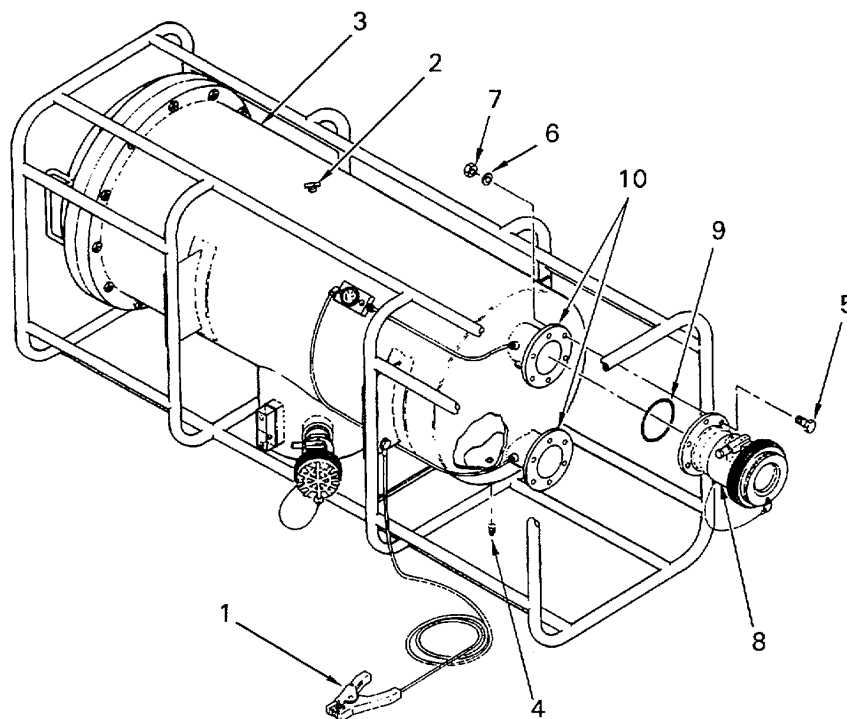

Figure 4-8. Flange Mount Three-Inch Unisex Coupling
a. Removal. (Figure 4-8)**WARNING**
b. Installation. (Figure 4-8.)
- (1) Wipe clean the flange mount unisex coupling (8) O-ring groove.